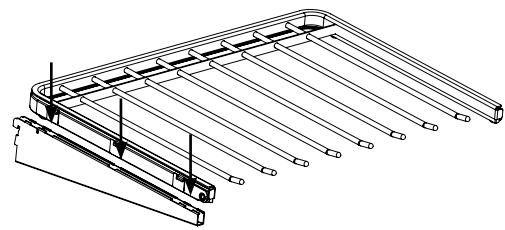

Figure 2
STEP 3: Install the surround assembly by inserting the six shelf tabs into the slots on the shelf brackets (**Figure 2**).